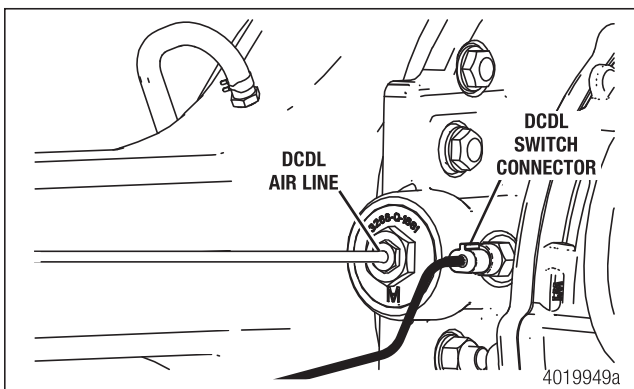

Figure 10.1
2. If the axle is equipped with a DCDL, the DCDL must be locked in the engaged position to allow removal of the axle shafts. A quick way to determine if the axle is equipped with DCDL is to check if an electrical connector is installed for the DCDL switch. Figure 10.1.